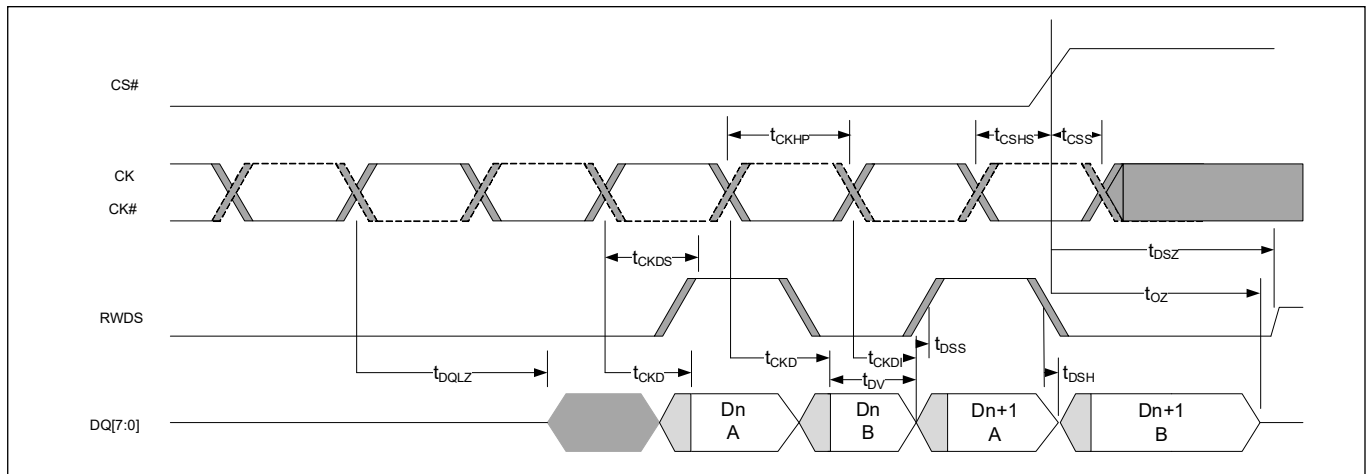

Figure 32 Data valid timing^[55-57]
52. Refer to Figure 32 for data valid timing.
54. Refer to Figure 32 for data valid timing.